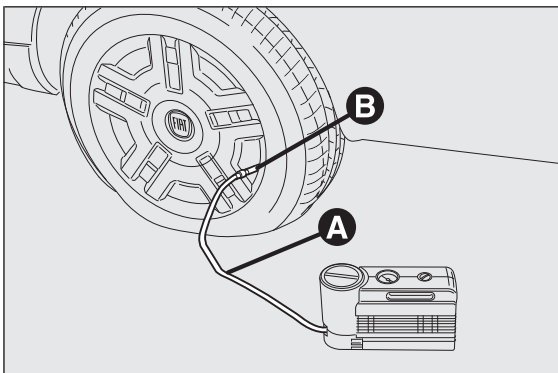

fig. 182
- ☐ Pull up the handbrake. Unscrew the tyre valve cap, take out the flexible filler pipe A fig. 182 and tighten the ring nut B on the tyre valve;